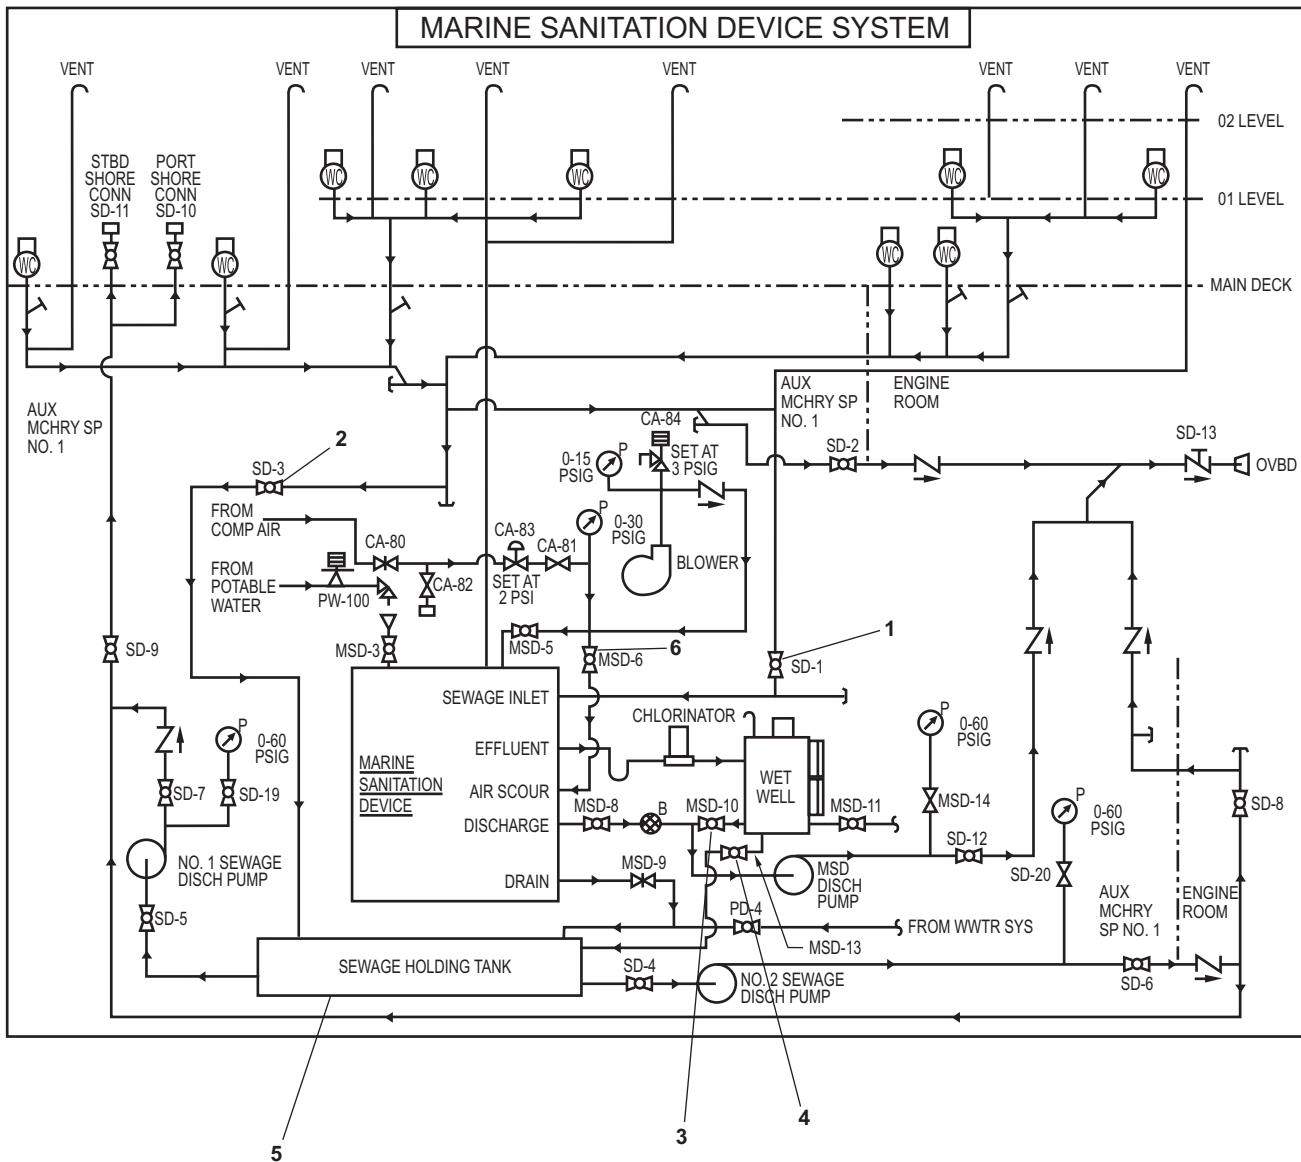

Figure 1. MSD Piping and Valve Schematic
1. CLOSE the SEWAGE INLET TO MSD valve, SD-1 (figure 1, item 1).
2. OPEN the SEWAGE DRAIN TO HOLDING TANK valve SD-3 (figure 1, item 2).
3. CLOSE the WET WELL DISCHARGE valve, MSD-10 (figure 1, item 3).
4. OPEN the WET WELL DRAIN TO HOLDING TANK valve, MSD-13 (figure 1, item 4) and drain the wet well into the SEWAGE HOLDING TANK (figure 1, item 5).